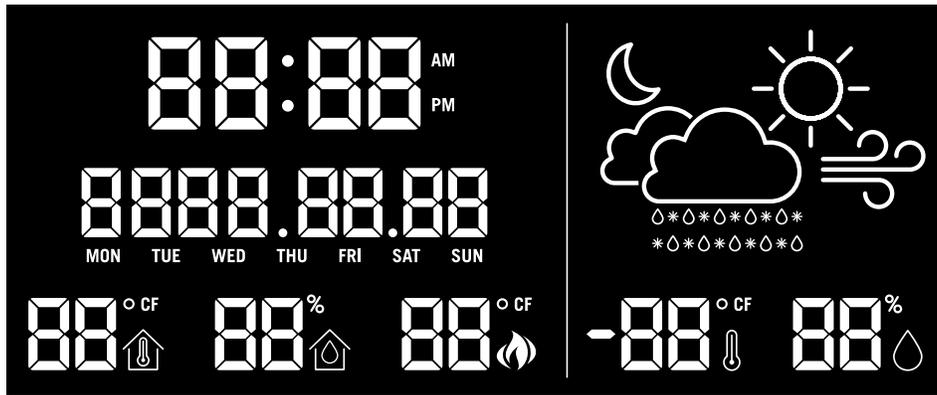

Fig. 10
1. The weather display will become active once the wifi has been set up. It is located in the top left-hand corner of the appliance's front glass (**Fig. 10**).